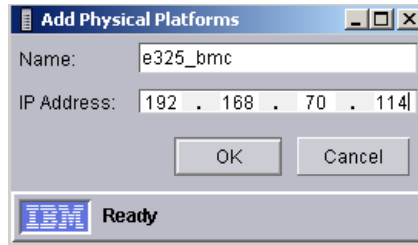

Figure 2-5 Add management processors window
2. You will be presented with the window shown in Figure 2-5 on page 15. Enter an appropriate name and the IP address details for the BMC you want to add, and select **OK**.